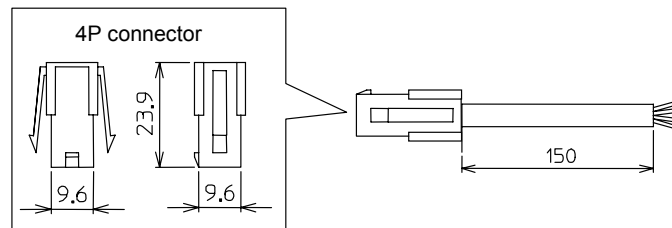

Figure 2. Dimensions of the assembly kit (mm)
- Drill a hole with 25 mm diameter for mounting the sampling probe and two holes with 4 mm diameter for the screws, as shown in Figs. 2 and 3.
- Check the mounting orientation. 'UP' mark on the sampling probe (See Figs. 2 and 3.) must be positioned on the upper side. Then, fix the sampling probe with two M4 screws with washers on the both sides.